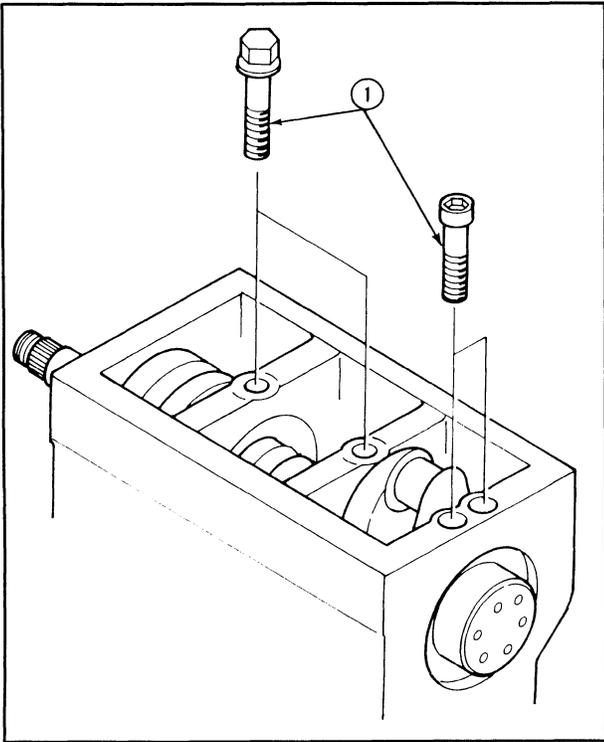

Figure 7
- If the end play is within specifications, install the remaining bearing holder retaining bolts and tighten to the specified torque, Figure 7.